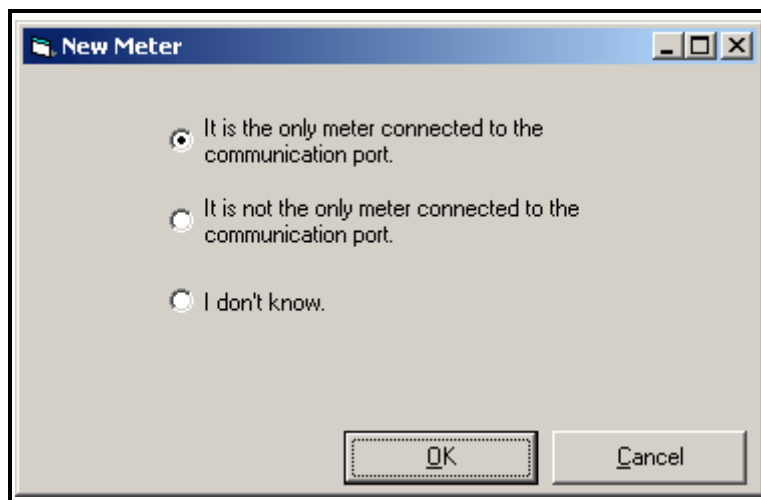

Figure 5: The Only Meter Dialog Box
5. After responding to the previous dialog box, the dialog box shown in Figure 5 below appears. In most instances, users connect their PC to one instrument only via a direct serial cable. Therefore, select the *"It is the only meter connected to the communication port"* radio button and then click on the [OK] option button.